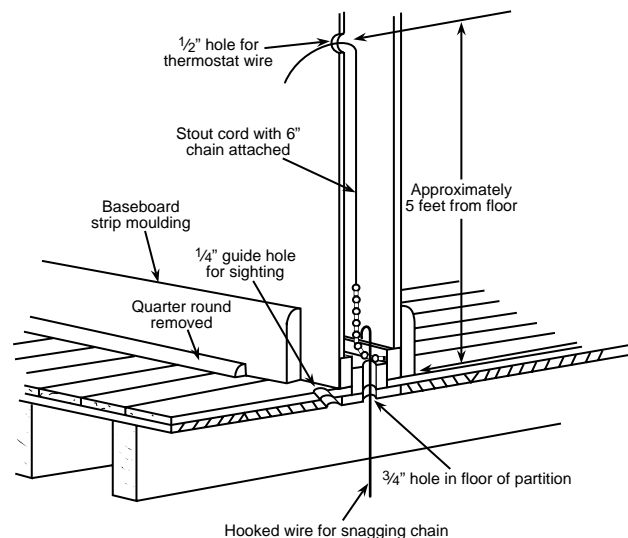

Figure 1. Routing thermostat wires
1. Probe for obstructions in partition before drilling $\frac{1}{2}$ " hole in wall at selected location. Take up quarter round and drill a small guide hole for sighting (see fig. 1). From basement, drill $\frac{3}{4}$ " hole in partition floor next to guide hole. In houses without basements, drill $\frac{1}{2}$ " hole through ceiling and into partition from above (see fig. 1).